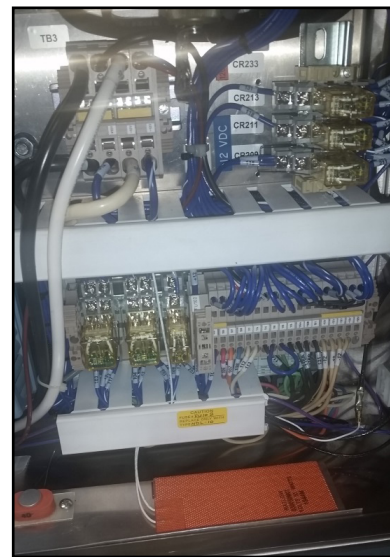

Figure 12 - Control Panel
- Run the blue thermostat wire from the VFD to the signal lead on the relay (14).
- Relays: Run a -12 wire (common) to either relay's negative signal lead (13). Use a jumper to connect the other relay's negative signal lead (13).
- TB3 in Figure 12 is not in all control panels, however all of the components are in the kit to add if necessary.
- Secure all wires with zip ties and make sure wires run neatly through the panel so wires will not inhibit future maintenance and repairs (Figure 12).